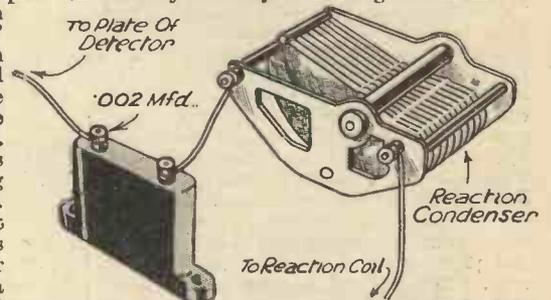

Fig. 12.—Preventing a short circuit of the H.T. battery due to the vanes of a reaction condenser touching each other.
**R**EACTION condensers are always connected across the high tension supply, through the H.T. choke and reaction winding, so that a short-circuit might have disastrous results. The danger of a short is fairly remote when using a condenser of the bakelite type, but with one of the air dielectric variety there is always some chance of the vanes touching and thus ruining the high tension battery. This possibility can easily and effectively be guarded against by connecting a fixed condenser in series with the reaction condenser (either plain or differential) as shown in Fig. 12. The extra condenser will have no effect on the normal working of the set so long as its capacity is high in proportion to that of the reaction condenser—any value from .002 mfd. upwards will serve perfectly well.